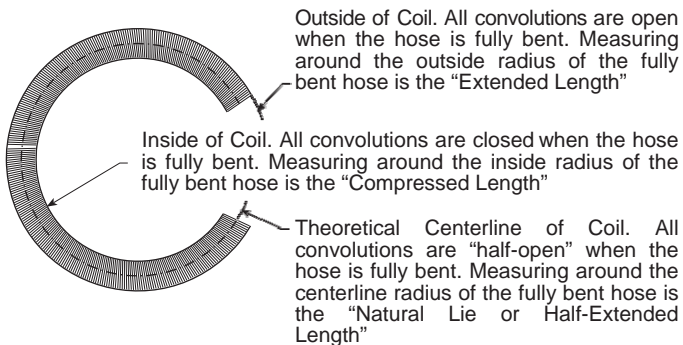

Figure 3: Measuring Flex Tubing Length
Measurement of Flex should be done by laying out the tube on a level surface and curving the entire tube or section into a tight radius so that the inner side of the curved tube has its convolutions touching as shown in Figure 3. When the inner radius of the Flex tubing is fully compressed, the outer radius will be fully extended and the center line of the tube will be at its natural lie length as depicted in the figure.
2. Coil the Flex tubing in a tight radius, as shown in Figure 3.